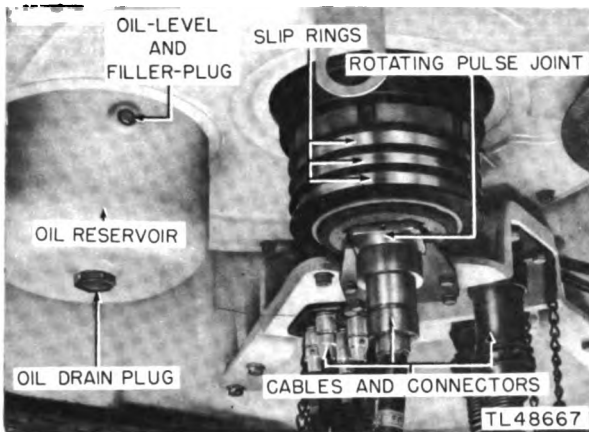

Figure 4-59. Underside of the pedestal.
(2) Remove the terminal box cover from the azimuth drive motor.
b. Maintenance Procedure (figs. 4-59 and 4-60).